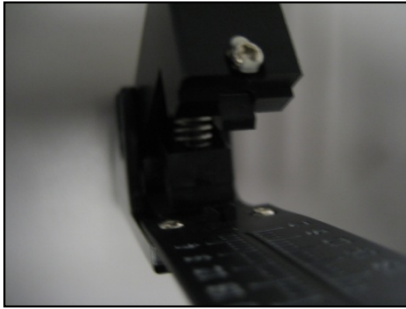
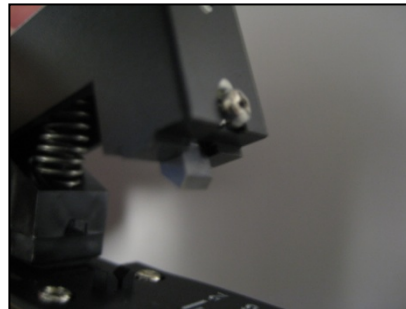

Figure 7
Figure 8
Step 1 - A small phillips type screwdriver will be needed to loosen the screw on the front of the cleaver. (See Figure 7). Once the screw is loosened, the ceramic blade, which is spring loaded, will come into sight. (See Figure 8)